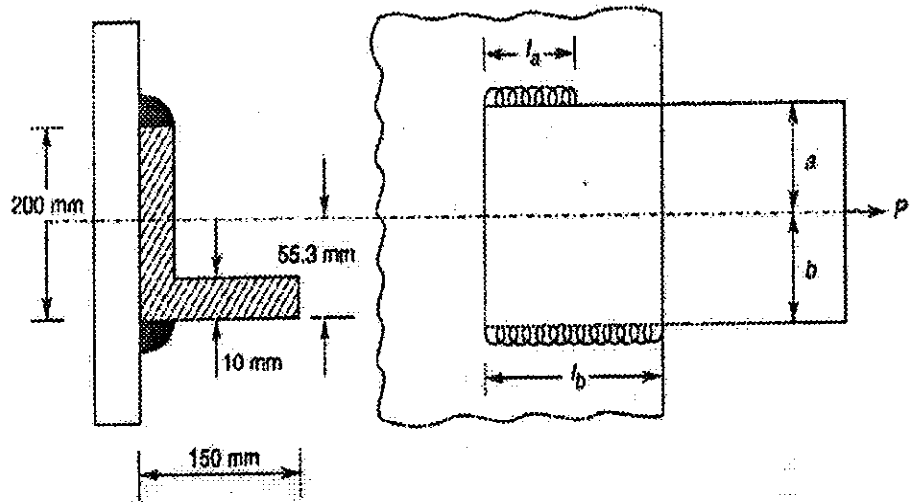

Figure-1
- (b) An angle of size 200 mm x 150 mm x 10 mm is required to be welded to a steel plate by a fillet weld as shown in the figure-1. If the angle is subjected to a static load of 200 KN, determine the top and bottom weld lengths. The allowable shear strength for static loading may be taken as 75 N/mm². (Marks: 4+4)